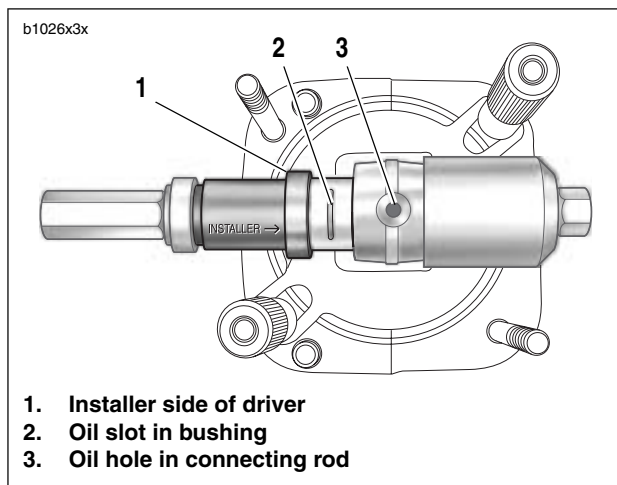

Figure 3-103. Installing New Wrist Pin Bushing
6. See Figure 3-103. Place **new** bushing between connecting rod and driver.